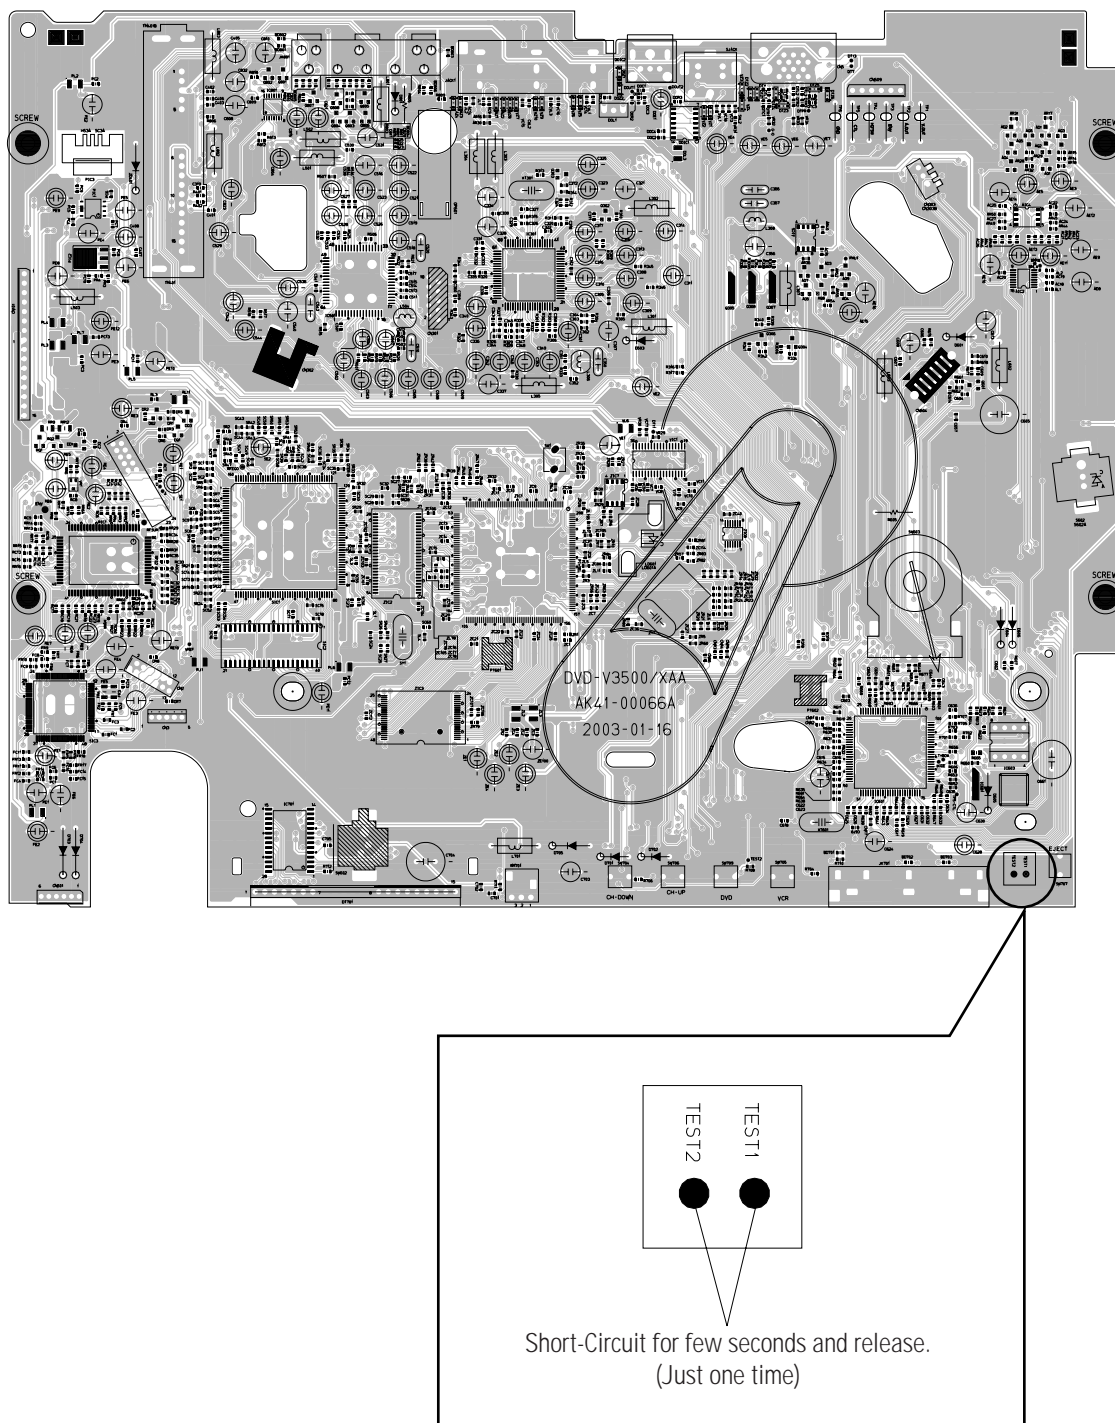

Fig. 2-2 Main PCB (Top View)
- 2) Intermittently short-circuit the two Test Points on Main PCB while setting the adjustment mode. (See Fig. 2-2)
- 1) Intermittently short-circuit the two Test Points on Main PCB. (See Fig. 2-2)
- 2) Intermittently short-circuit the two Test Points on Main PCB. (See Fig. 2-2)